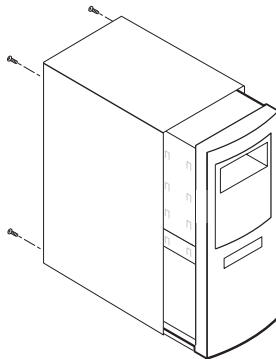

Figure 3
3. Remove the cover from your system case. See Figure 3.